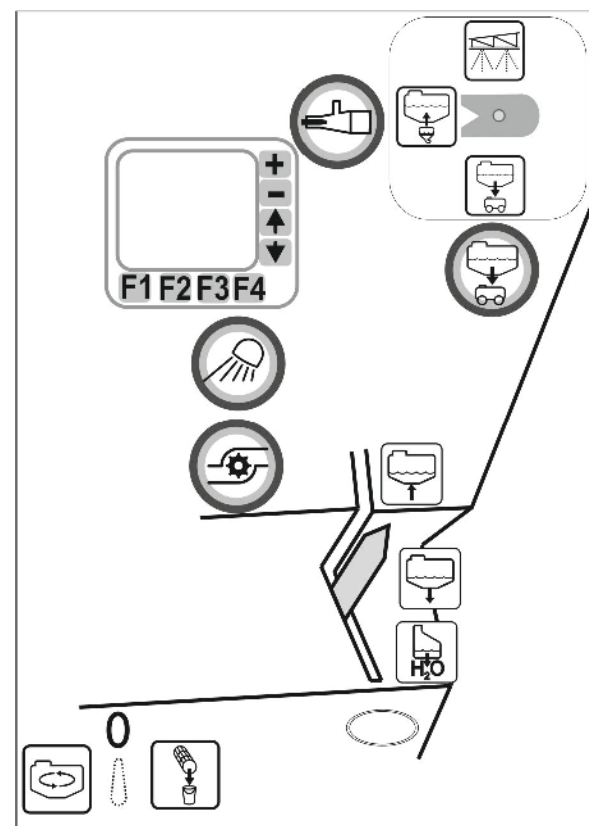

Fig. 143
2. Remove the pressure filter (Fig. 143/1) and clean with water.
5. Remove the pressure filter (Fig. 143/1) and clean with water.